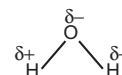

Fig. 1.2: Partially polarized O-H bonds in water
- Another important aspect of O-H bond in water molecule is its polar nature. It is known that, the electronegativity of oxygen is more than that of hydrogen. Due to this, oxygen atom attracts (pulls) bonded electrons towards itself and hence electron cloud is oriented on oxygen resulting in the partial negative charge on oxygen and partial positive charge on the hydrogen as shown in Fig. 1.2.